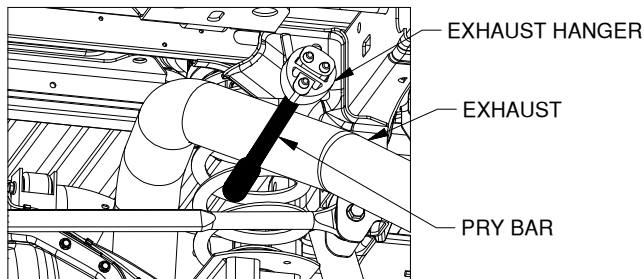

FIGURE A5: looking under truck bed towards cab.
7. **Disconnect the exhaust hanger: (optional, see secure hitch section step 3)** Locate the exhaust hanger in the rear passenger portion of the truck, see Figure A5. Disconnect the exhaust from the hanger to provide improved mounting access to the center section. It is recommended that a pry bar be used to aid in disconnecting the exhaust hanger, as shown in Figure A5.